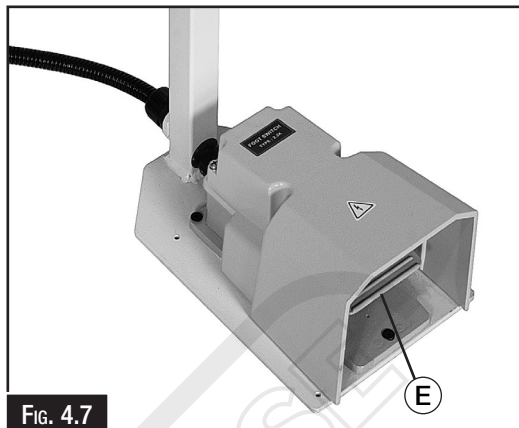

FIG. 4.7
5. Press the foot pedal (E in Fig.4.7). The machine should run smoothly without any rubbing noises.
8. Without resetting EMERGENCY STOP button, press the foot pedal (E in Fig.4.7). The machine should not start.